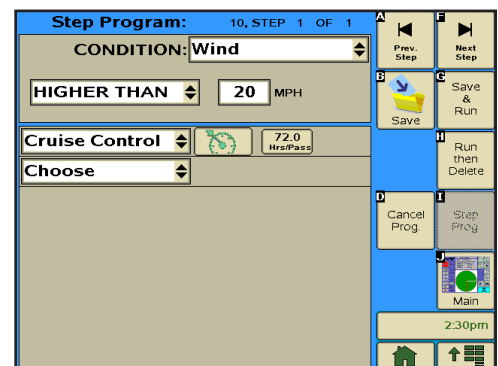

Figure 145-4
- d) Enter **7, 2** for 72 hours per revolution and push **Enter**. Refer to Figure 145-4.